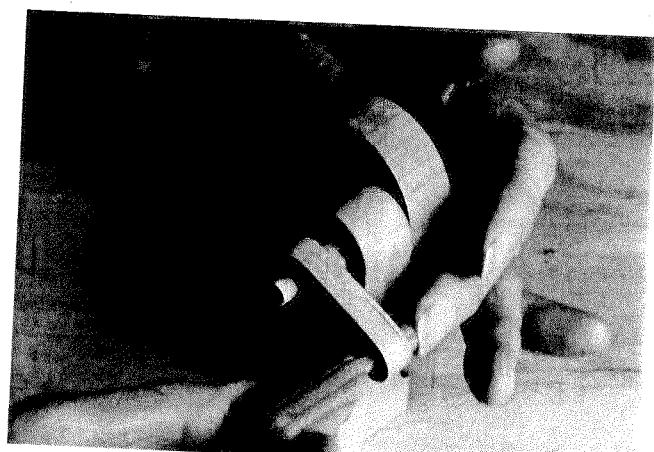

FIGURE 3-11
- 5** If you have followed our directions to the letter, you will need to adjust selected holes or parts of the dowel shaft to achieve a suitable fit. For example, the handle peg needs to be a tight fit in the handle and a loose fit through the crank. Then again, the dowel shaft needs to be a tight fit in the crank and disk cam, while being a loose, easy fit through the little stanchion (Fig 3-11). Play around with the fit until you get it right.